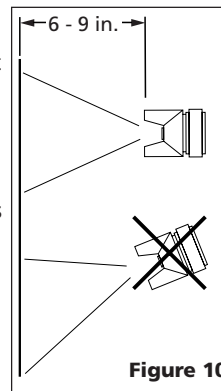

Figure 10
1. Begin spraying. Always keep the gun at right angles to the work (See Figure 10).